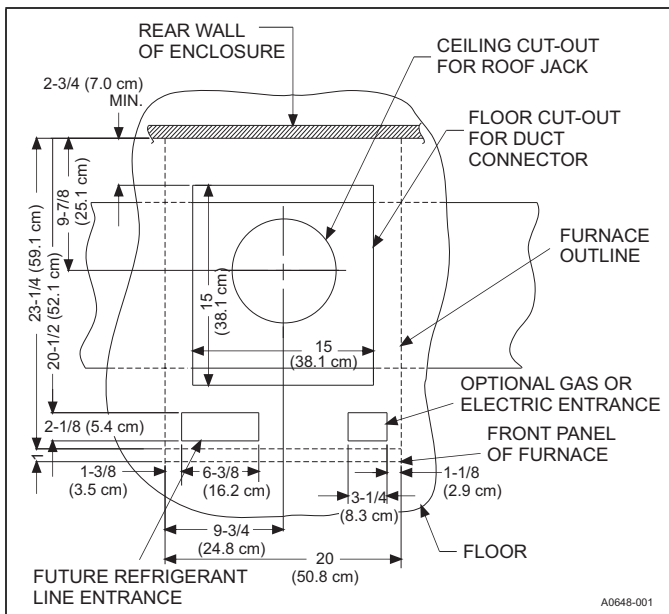

Figure 7: Recommended floor cut-out
1. Make floor cut-out as shown in Figure 7.